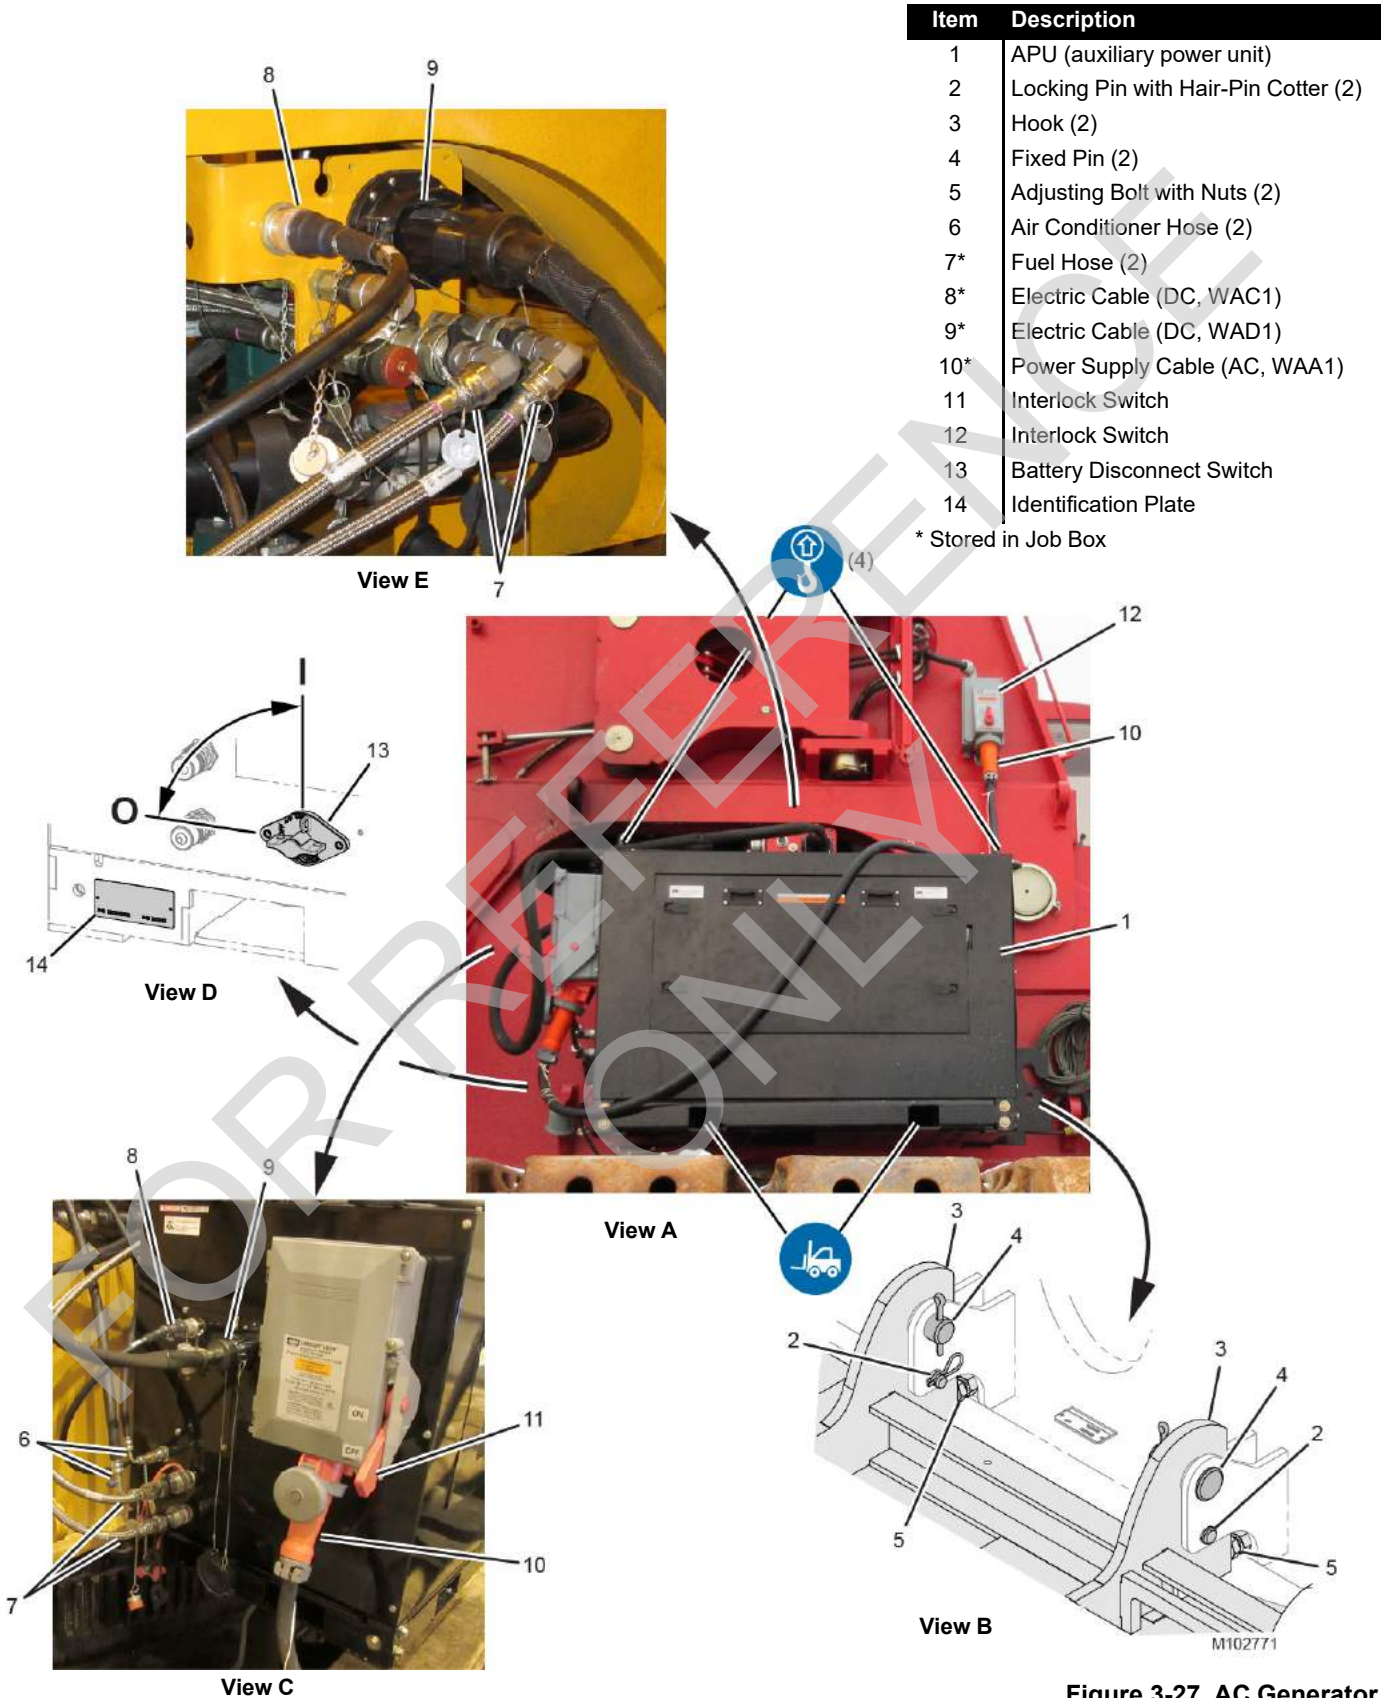

Figure 3-27. AC Generator
- Manitowoc furnished APU (see Figure 3-27 on page 3-80).
See Figure 3-27 for the following procedure.